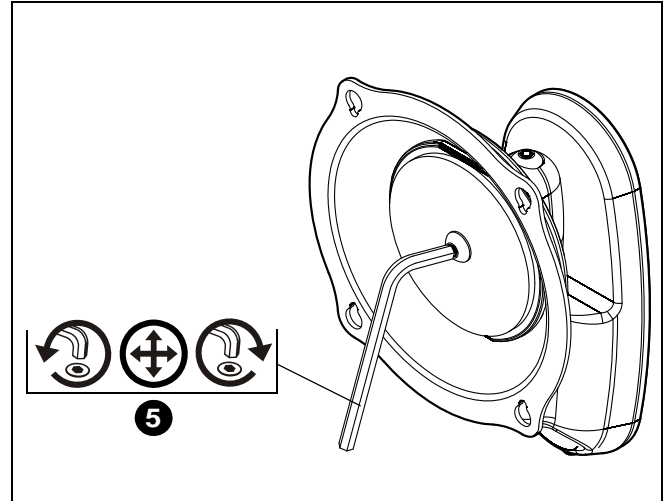

Figure 14
5. Turn the tension adjustment screw clockwise to increase tension, or counter-clockwise to decrease tension. (See Figure 14)